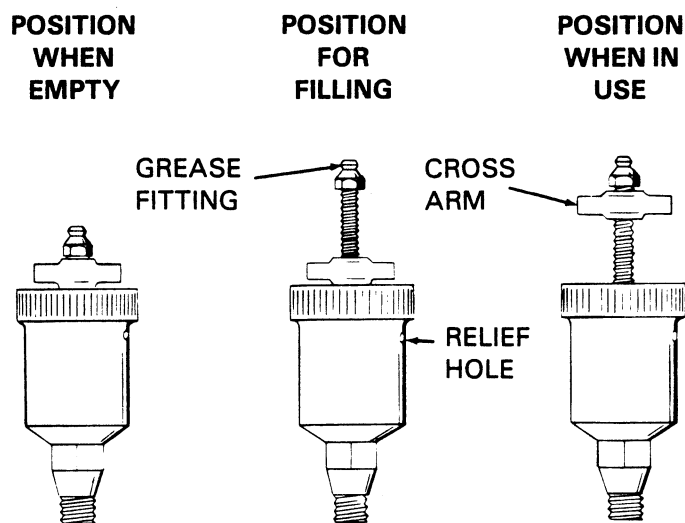

Figure 5. Automatic Lubricating Grease Cup
Before removing the seal assembly, turn the cross arm on the seal grease cup (14) clockwise until it rests against the cover (see figure 5). This will prevent the grease in the cup from escaping after the seal is removed.
Before starting the pump, fill the grease cup through the grease fitting with a good grade of No. 2 pressure gun grease until grease escapes from the relief hole. Turn the grease cup arm counterclockwise until it is at the top of the stem; this will release the spring to apply grease to the seal (see figure 5).